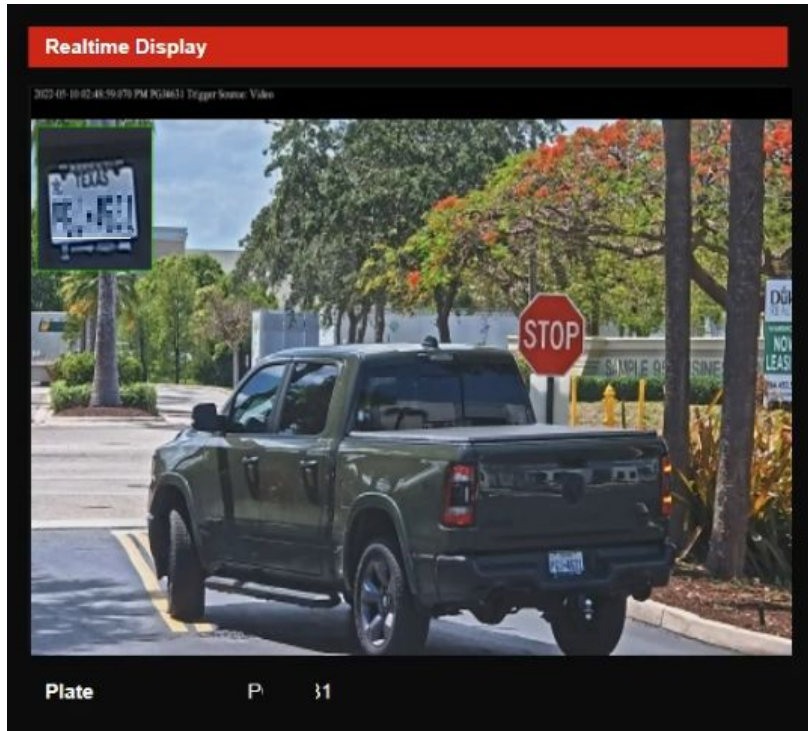

Figure 4-3
Step 8 Any vehicle which has triggered the ANPR will show up under “Realtime Display” (Figure 4-3) section. This will help you configure the rules so that the passing vehicles can be captured reliably.